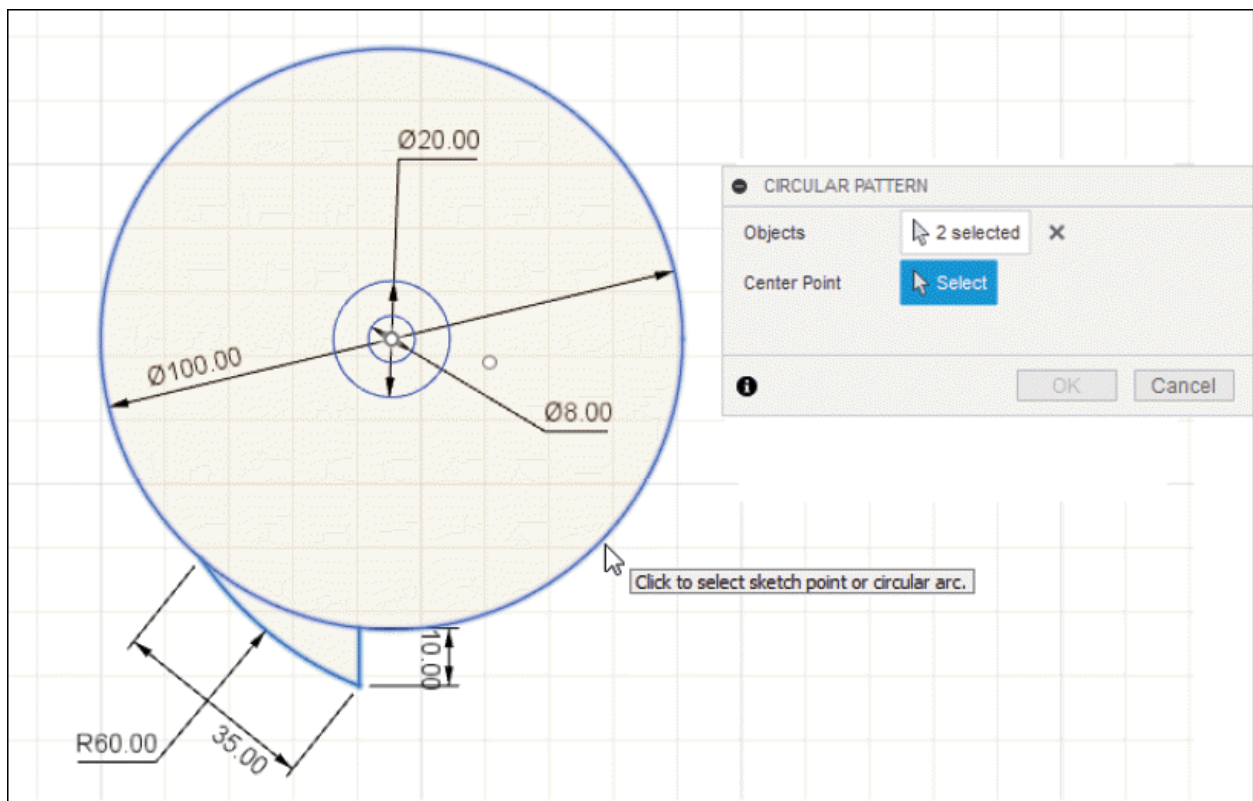

Figure-29. Creating circular pattern
- Click on **Select** button of **Center Point** section and select the major circle to define its center as center point for pattern; refer to Figure-29.